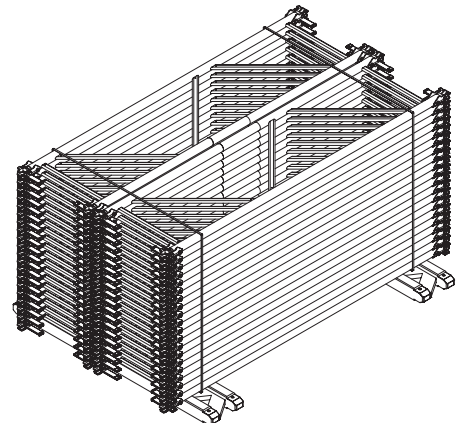

Fig. A8.04
- Frame MP MRK (1) with steel band. (Fig. A8.04)